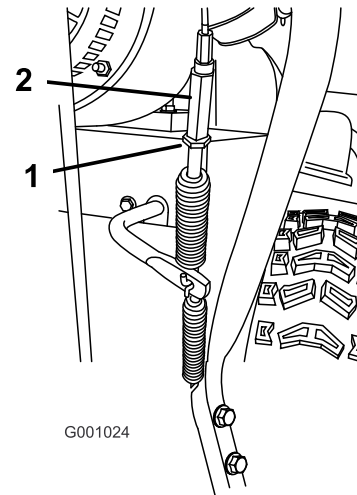

Figure 46
5. Loosen the jam nut Figure 46.
6. Loosen or tighten the turnbuckle that adjusts the tension on the cable (Figure 46).